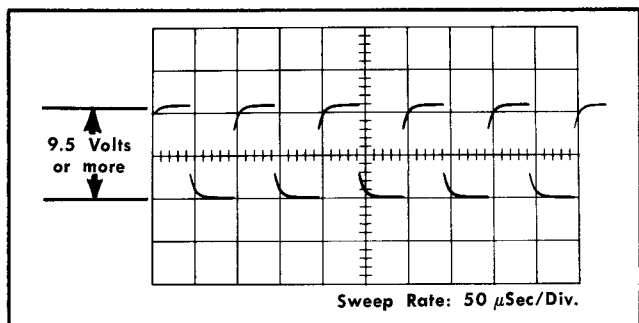

Fig. 6-9. Measuring the amplitude of the composite internal trigger as displayed on the test oscilloscope crt. Vertical deflection factor: 5 volts/div.
- d. With the test oscilloscope probe connected to the same test point as described in step 16g and using the calibrated vertical deflection factor on the test oscilloscope, check the amplitude of the waveform. The amplitude should be 9.5 volts or more (see Fig. 6-9).